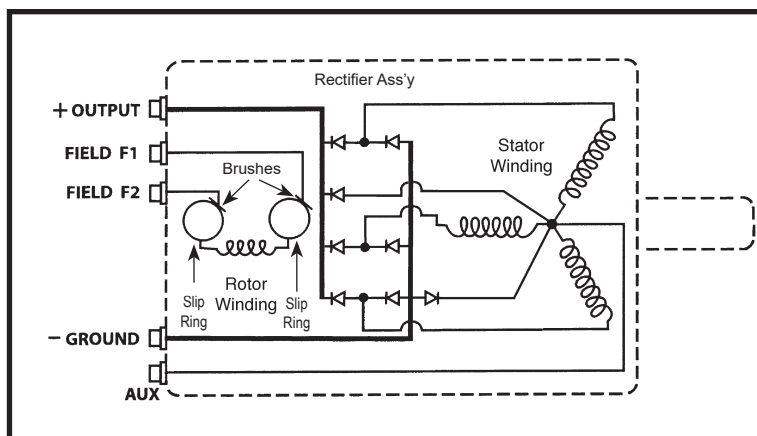

Figure 2.11 - Basic Diagram
- B. A simplified electrical diagram is shown in Figure 2.11 which shows the basic electrical operating points and connections.